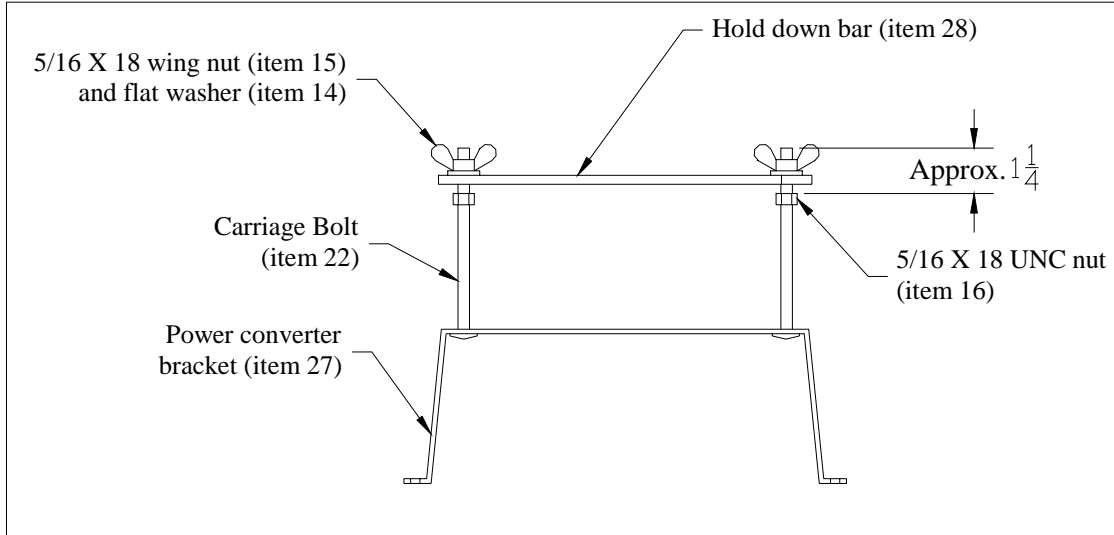

Figure 10. Assembly of power converter bracket.
1) Insert one 5 inch carriage bolt (Item 22) into each of the square holes of the power converter bracket (Item 27) and capture each carriage bolt using one 5/16 inch nut (Item 16). See Figure 10.
CAUTION: Position the nut according to Figure 10. This will allow the carriage to fit loosely in the bracket, reducing the chance of damage to the bolts or personal injury when the storage cabinet is removed for cleaning. **DO NOT TIGHTEN 5/16 INCH BOLT.**